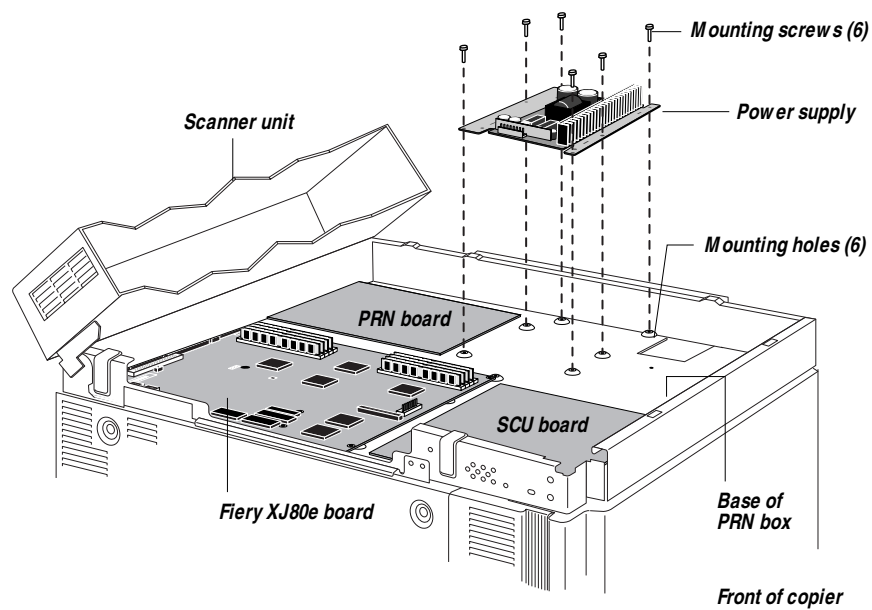

Figure 3-12 Installing the power supply
3. *Place the power supply on the mounting holes at the base of the PRN box (see Figure 3-12 on page 3-14).*